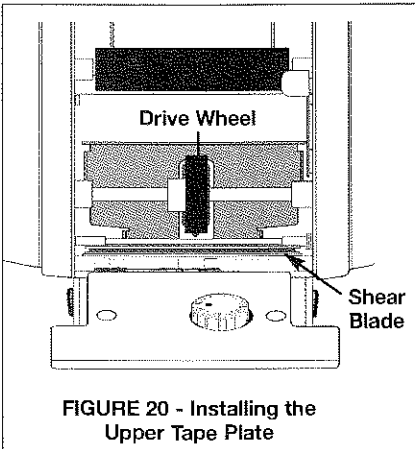

FIGURE 20 - Installing the Upper Tape Plate
7. Replace the upper tape plate and feed the tape back into position when you have cleared the jam. See Figures 20 and 21 (page 24).